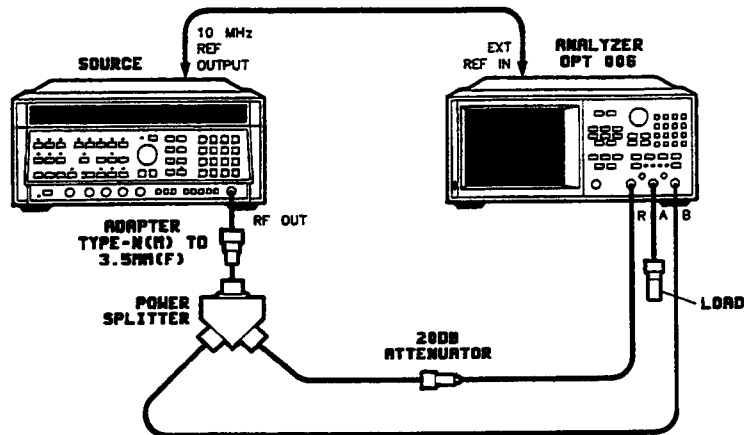

Figure 33. HP 8753B/C, HP 8702B Option 006 B-into-A and A-into-B Input Crosstalk Test Setup
5. Connect the equipment as shown in Figure 33. On the analyzer press **[MEAS] [A/B] ([MEAS] [INPUT PORTS] [A/B] for 8702)** and repeat step 2 for the B-into-A frequencies on the *Record*.